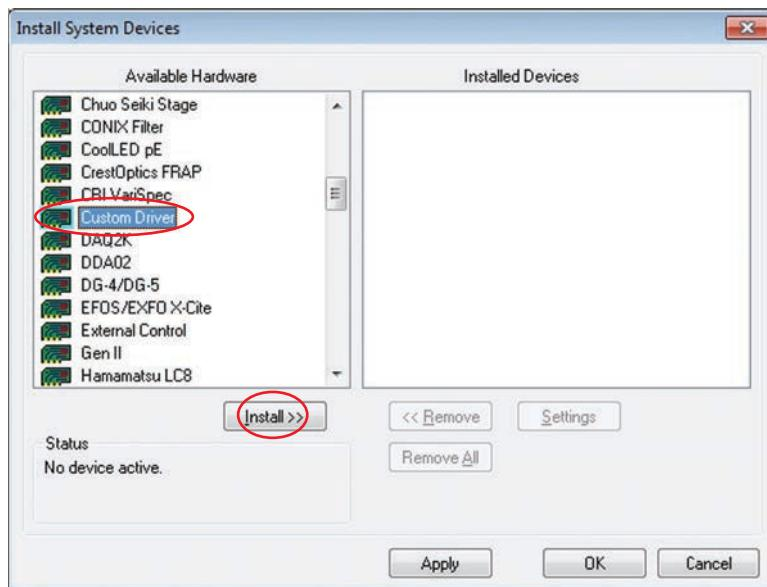

Figure H-10. Install Custom Driver
5. Select **Custom Driver** from the left side panel, as shown in Figure H-10, and then click the Install button.